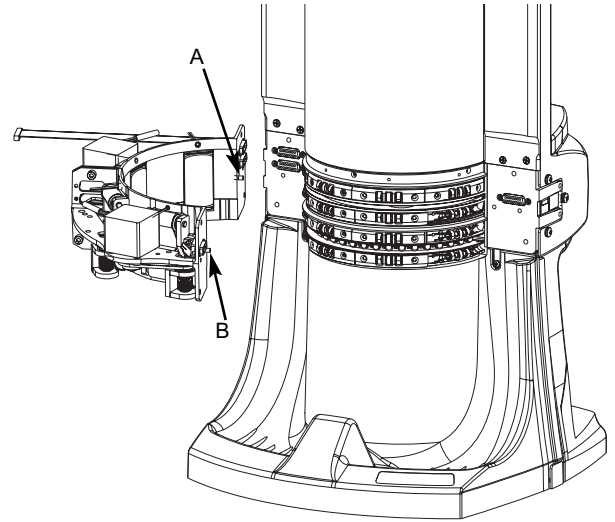

Figure 4. Transport Arch Locating Pins
1. As shown by Figure 4, align the two (2) locating pins A and B (one on each side) and the three (3) male D-Type connectors of the Transport Arch assembly with the 3 mating D-Type female connectors.